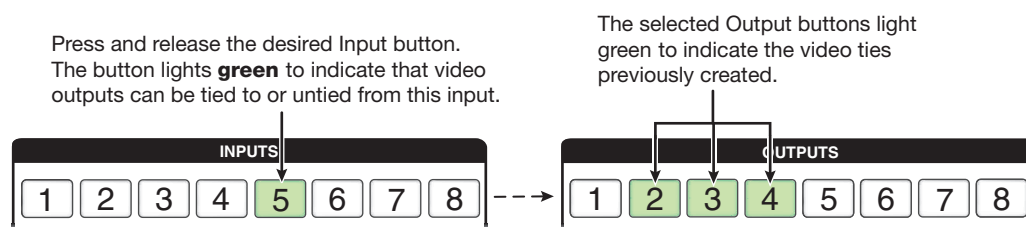

Figure 23. Select an Input with Ties
3. Press and release the desired Input button. Figure 23 shows a video-only tie.